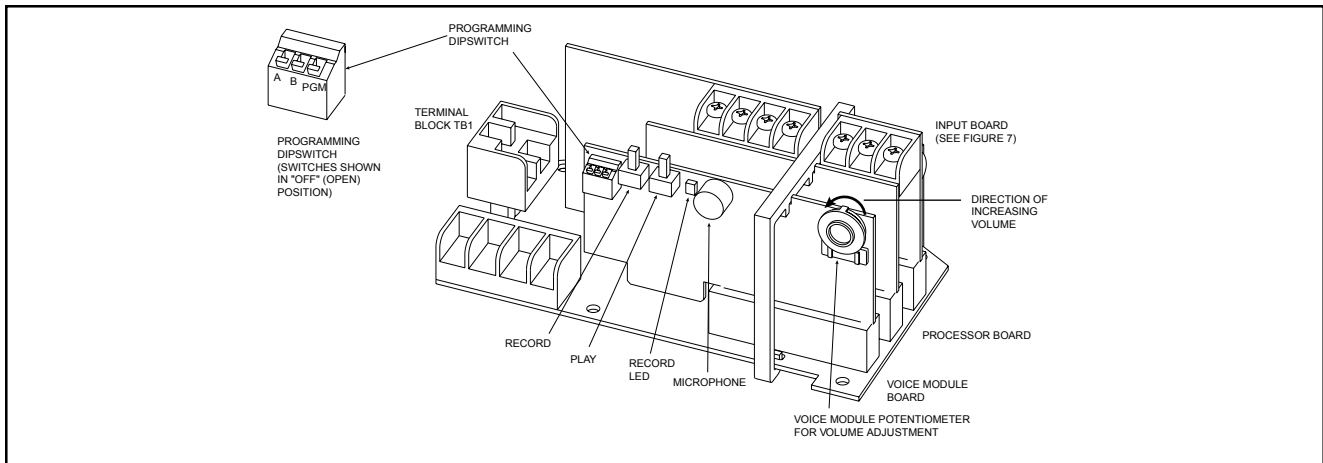
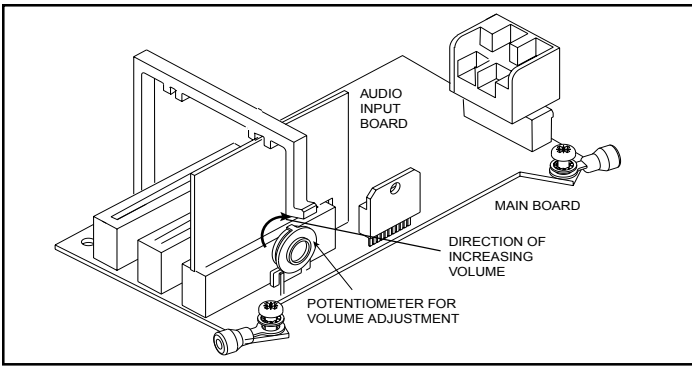

Figure 2. Voice Module Board
Figure 13. 5532M Series PC Board Locations
Four five-second messages (or one twenty-second message) can be recorded on the voice module unit. Refer to Figure 2.
(Figure 2). For programming a message longer than five seconds, use Message Location 1.
2. Put switch PGM on the programming dipswitch in the "CLOSED" position for programming mode (Figure 2).
5. Adjust the volume as necessary. Set the main volume using the potentiometer on the main board (Figures 13, 14 and 15) and then set the voice volume using the potentiometer on the voice module board (Figure 2).
- 6. Adjust volume level, if desired, by turning potentiometer located on the main board (Figures 13, 14, 15 and 18) and on voice board (Figure 2).